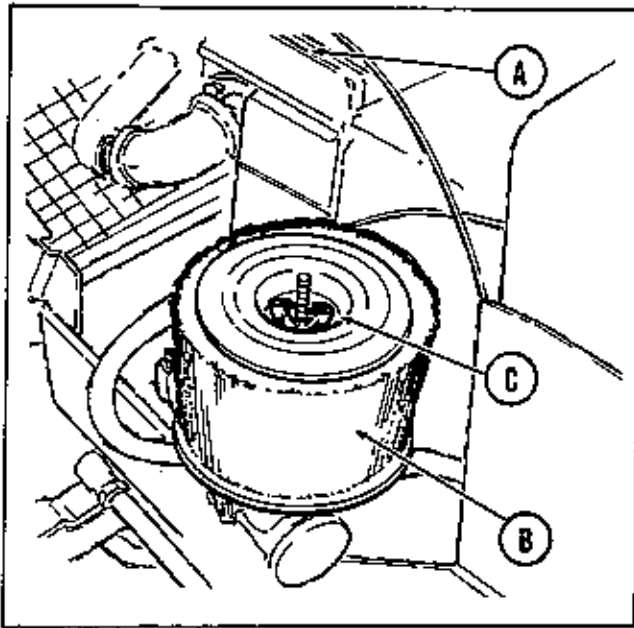

Figure 22. Air cleaner with cover removed on left side of engine.
See figure 22. All grass and chaff should be removed from the engine fins (A). **CAUTION: THE ENGINE FINS ARE VERY HOT AFTER THE ENGINE HAS BEEN OPERATED. DO NOT TOUCH THEM UNTIL THE ENGINE HAS BEEN ALLOWED TO COOL. NEVER SPRAY WATER ON A HOT ENGINE.**
2. See figures 22 and 23. Remove the foam pre-cleaner (B) and wash it in liquid detergent and water and squeeze dry.
4. Install the foam precleaner as shown in figures 22 and 23.
The engine air cleaner is made up of two types of filters. The foam filter (Figure 22, Item B) and a dry filtering element. The foam element should be cleaned and oiled every 25 hours as explained under the Every-25 Hour Maintenance
2. See figures 22 & 23. Remove the foam element (B) and clean and oil it as described in the Every 25 Hour Maintenance Service.
3. Remove wing nut (C) and remove the paper element from the air cleaner.
5. See figures 22 & 23. Replace the paper element and wing nut (C) and tighten it securely.
6. Install the foam element (B) over the paper element as shown in figure 22.